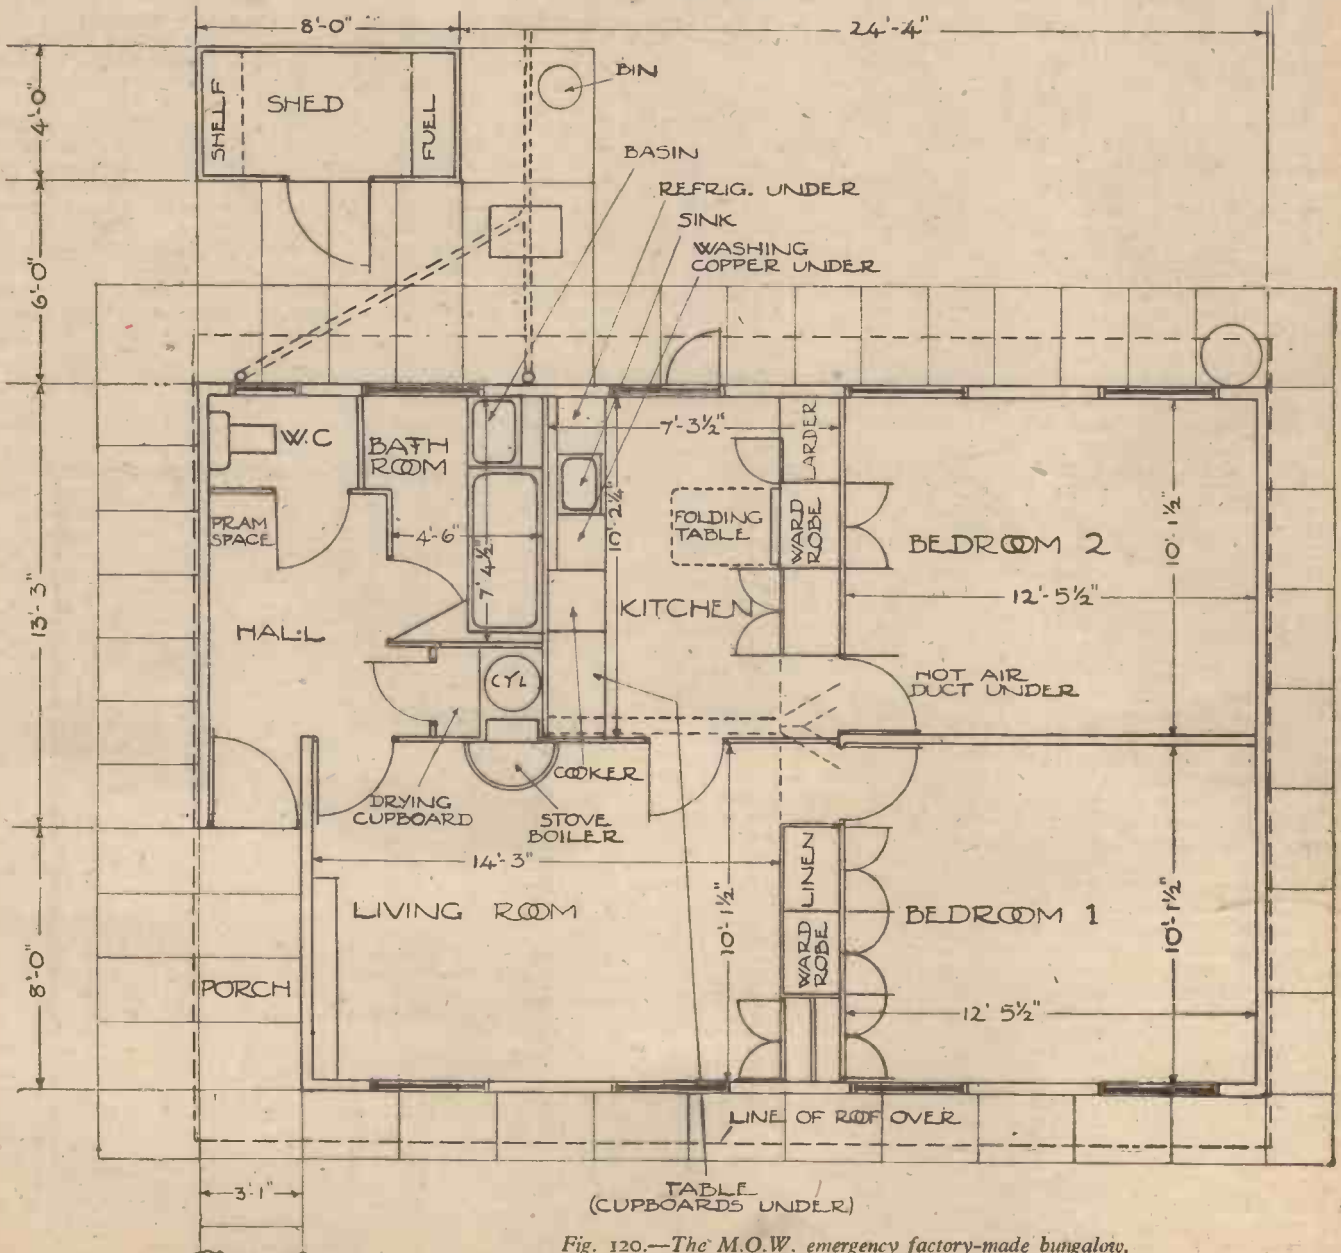

Fig. 120.—The M.O.W. emergency factory-made bungalow.
difference between the pre-war traditional methods of services equipment and what may be expected in post-war housing. Fig. 120 is a plan of the M.O.W. emergency factory-made bungalow, and it will be noted that the services equipment is very compactly grouped together in one storey and comprises the following items: (1) Stove-boiler which directly heats the living-room and also other rooms by means of hot-air ducts: it is also, as its name implies, a boiler which provides the hot-water installation, the hot-water cylinder being behind the stove-boiler as shown; (2) a drying cupboard adjoining the stove-boiler and cylinder compartment; (3) cooker; (4) washing copper; (5) sink
effect the above means at least three separate pipe systems, and this makes it essential for designers of engineer-built houses to consider the more economical one-pipe drainage system which has proved entirely satisfactory in the United States and on the Continent. It allows for all soil, waste and rain to be conveyed in one pipe and avoids open gullies; proper trapping, ventilation, connections and jointing are essentials with the system. With the grouping of services equipment, as shown by Figs. 120 and 121, drainage and plumbing work may be exceptionally efficient and economical.